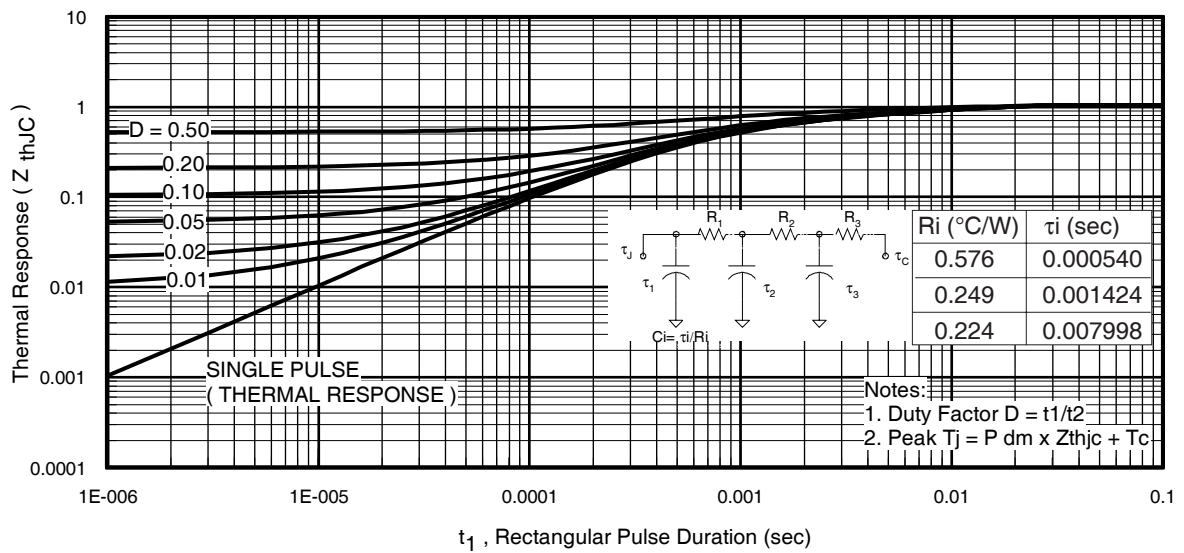
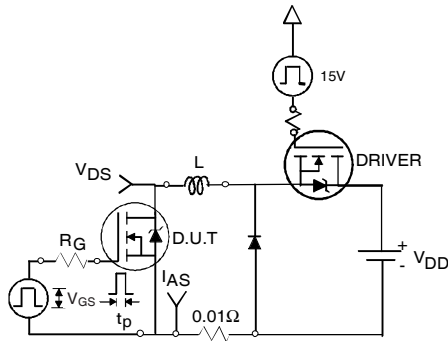

Fig 11. Maximum Effective Transient Thermal Impedance, Junction-to-Case
Fig 12a. Unclamped Inductive Test Circuit
3. Equation below based on circuit and waveforms shown in Figures 12a, 12b.
$Z_{thJC}(D, t_{av})$ = Transient thermal resistance, see figure 11)
- ① Repetitive rating; pulse width limited by max. junction temperature. (See fig. 11).
- ② Limited by T_{Jmax} , starting $T_J = 25^\circ\text{C}$, $L = 0.28\text{mH}$, $R_G = 25\Omega$, $I_{AS} = 33\text{A}$, $V_{GS} = 10\text{V}$. Part not recommended for use above this value.
- ③ Pulse width $\leq 1.0\text{ms}$; duty cycle $\leq 2\%$.
- ④ C_{oss} eff. is a fixed capacitance that gives the same charging time as C_{oss} while V_{DS} is rising from 0 to 80% V_{DSS} .
- ⑤ Limited by T_{Jmax} , see Fig.12a, 12b, 15, 16 for typical repetitive avalanche performance.
- ⑥ This value determined from sample failure population, starting $T_J = 25^\circ\text{C}$, $L = 0.28\text{mH}$, $R_G = 25\Omega$, $I_{AS} = 33\text{A}$, $V_{GS} = 10\text{V}$.
- ⑦ When mounted on 1" square PCB (FR-4 or G-10 Material) . For recommended footprint and soldering techniques refer to application note #AN-994.
- ⑧ R_θ is measured at T_J approximately 90°C .